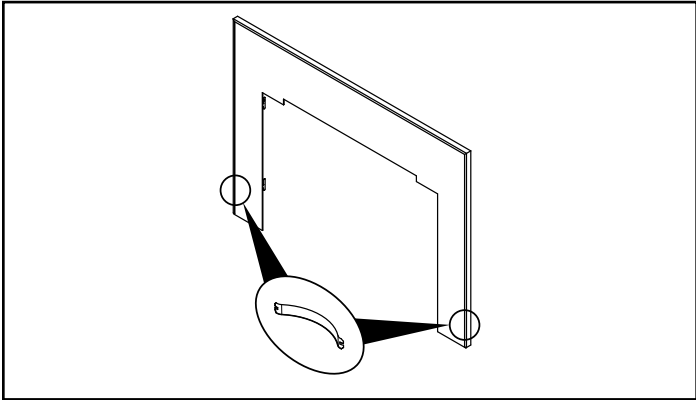

Figure 5.15
- 6. Install two steel springs on each side of the flat surround towards the bottom and the assembled trim kit (**Figure 5.15**).